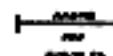

Figure 3-6. FPF.
(5) Final Protective Fire (FPF). The symbol for final protective fire is similar to that for a linear target. It includes the target number and FPF/unit to fire (Figure 3-6).